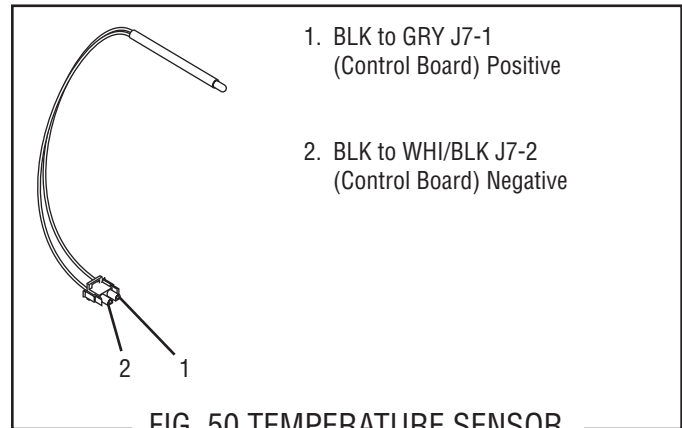

FIG. 50 TEMPERATURE SENSOR
7. Refer to Fig. 50 and connect the wires to the new plug.